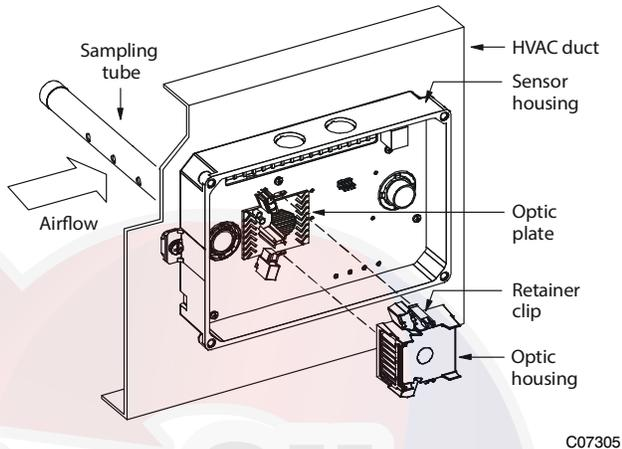

Fig. 42 – Sensor Cleaning Diagram
1. Disconnect power from the duct detector then remove the sensor's cover. (See Fig. 42.)